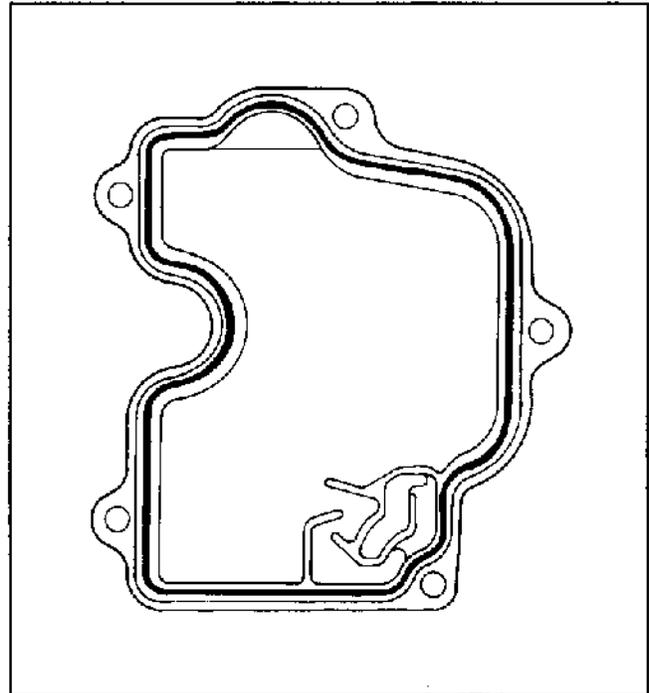

Figure 11-34. Valve Cover Sealant Pattern.
2. Apply a 1/16” bead of sealant to the cylinder head as shown in Figure 11-34.